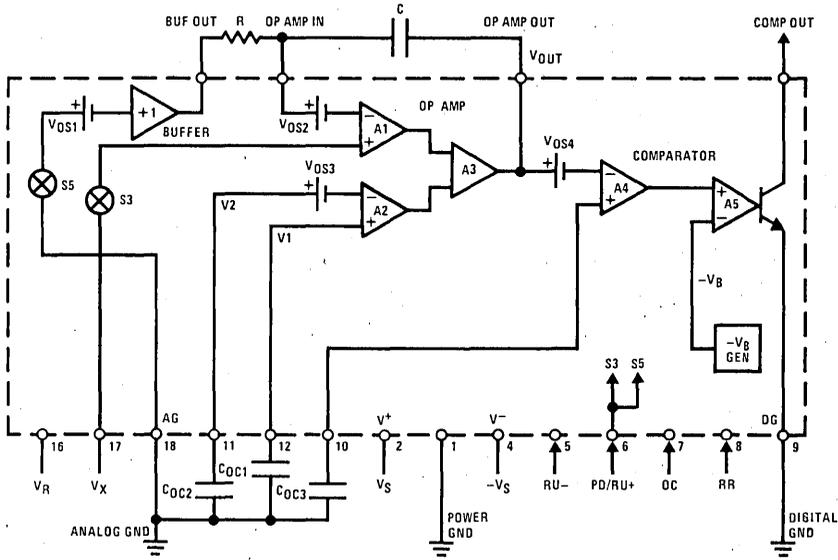

FIGURE 2. Polarity Determination Circuit or Ramp Unknown Circuit for  $V_X \geq 0$
**Polarity Determination (Figure 2)**
**Ramp Unknown (Figures 2 and 3)**
In the Ramp Unknown state, if  $V_X \geq 0$ , S3 and S5 are closed, as shown in Figure 2, and  $V_X$  is applied to the + input of the integrator. If  $V_X \leq 0$  and the LF13300 is connected as in Figure 3 with S2 and S4 closed.  $V_X$  is now applied through the buffer to the – input of the integrator. In either Ramp Unknown case, the op amp output ramps in the positive direction and  $V_X$  is applied to a high impedance JFET input.